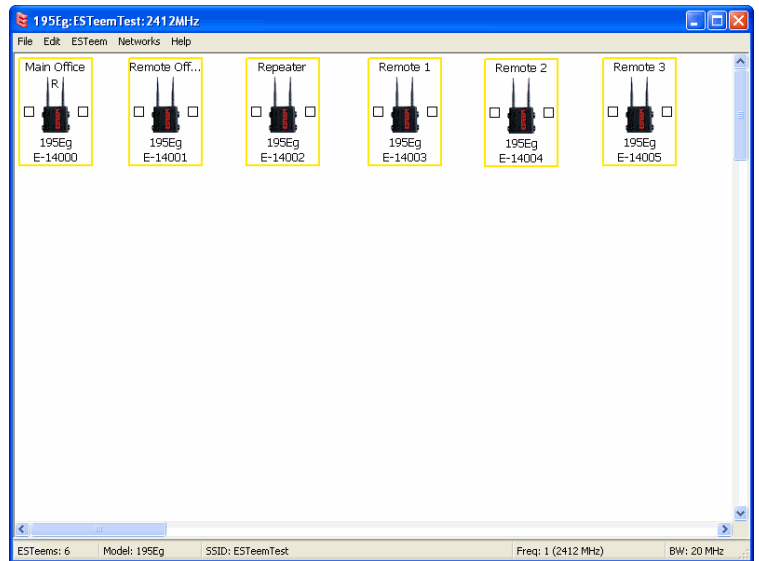

Figure 16: Example 3 Modems
1. Using the above procedure for adding ESTeem Model 210s, add the six ESTeem 210s for this example and rename by location. Your layout should appear like Figure 16.